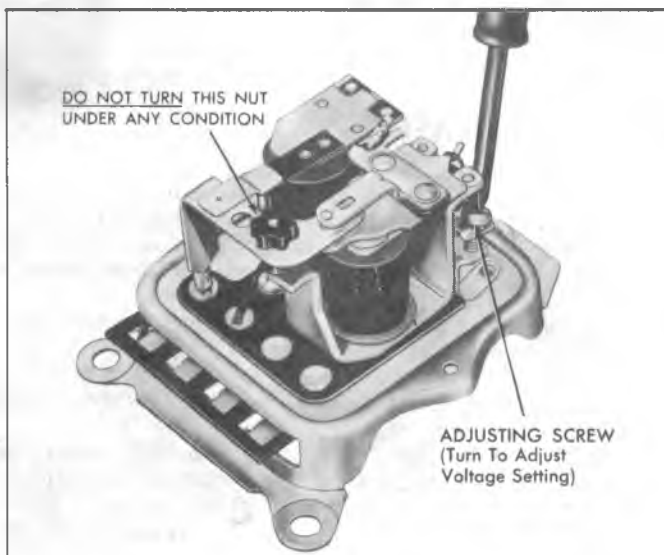

Fig. 3c—Adjust Voltage Setting
- (1) Delcotron tests bad - refer to "The Overhaul Manual" and repair Delcotron, then repeat Step 6.
- (2) Delcotron tests good - disconnect regulator connector, remove regulator cover and re-connect the connector. Then repeat Step 6 and turn voltage adjusting screw (fig. 3c) to raise setting to 12-1/2 volts. Turn off loads, stop engine and proceed to Step 7. If 12-1/2 volts cannot be obtained, install a new regulator and repeat Step 6.
- a. Disconnect four terminal connector and reinstall regulator cover. Then re-connect four terminal connector and adjust voltage to 14.2 and 14.6 (Refer to Step 6 and fig. 3c).